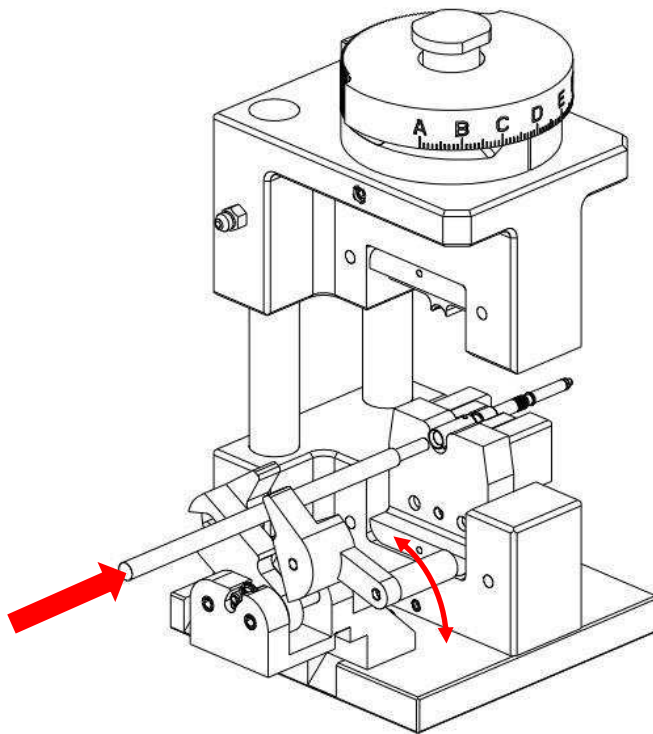

Figure 4
2. Open the wire clamp by pressing down on the lever, insert the stripped wire into the terminal (reference Figure 4) and release the lever to clamp the wire in place.